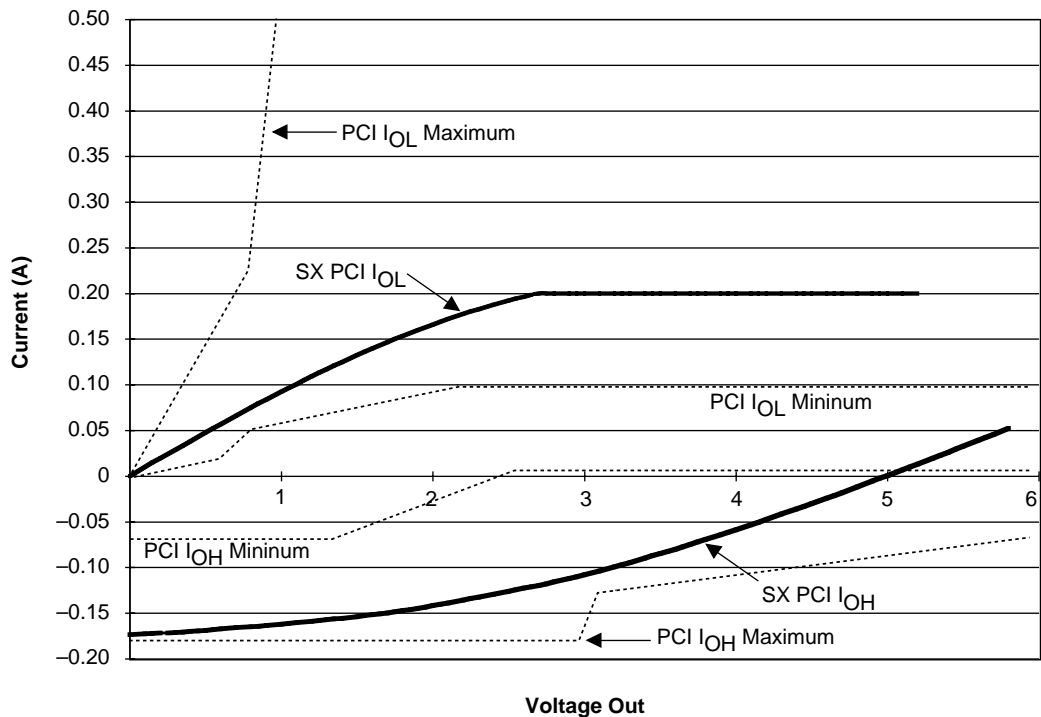

Figure 9 • 5.0V PCI Curve for SX-A Family
1. Refer to the V/I curves in Figure 9 on page 14. Switching current characteristics for REQ# and GNT# are permitted to be one half of that specified here; i.e., half size output drivers may be used on these signals. This specification does not apply to CLK and RST# which are system outputs. "Switching Current High" specification are not relevant to SERR#, INTA#, INTB#, INTC#, and INTD# which are open drain outputs.
3. Maximum current requirements must be met as drivers pull beyond the last step voltage. Equations defining these maximums (A and B) are provided with the respective diagrams in Figure 9 on page 14. The equation defined maxima should be met by design. In order to facilitate component testing, a maximum current test point is defined for each side of the output driver.
Figure 9 shows the 5.0V PCI V/I curve and the minimum and maximum PCI drive characteristics of the SX-A family.